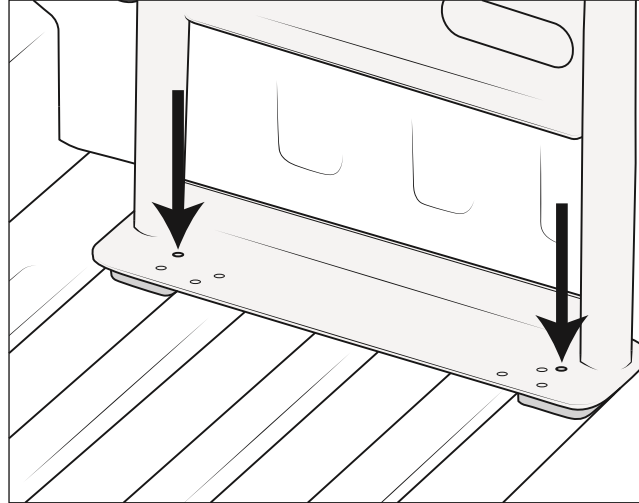

Figure 5
7. Mark the two hole locations on the bed floor (fig. 5)